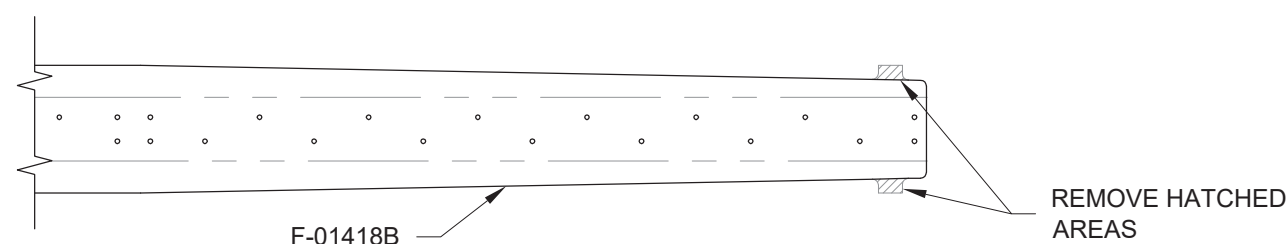

FIGURE 2: MODIFY AFT FUSE
Step 2: Remove the hatched areas from the F-01418B-L & -R Aft Fuse Longerons as shown in Figure 2.